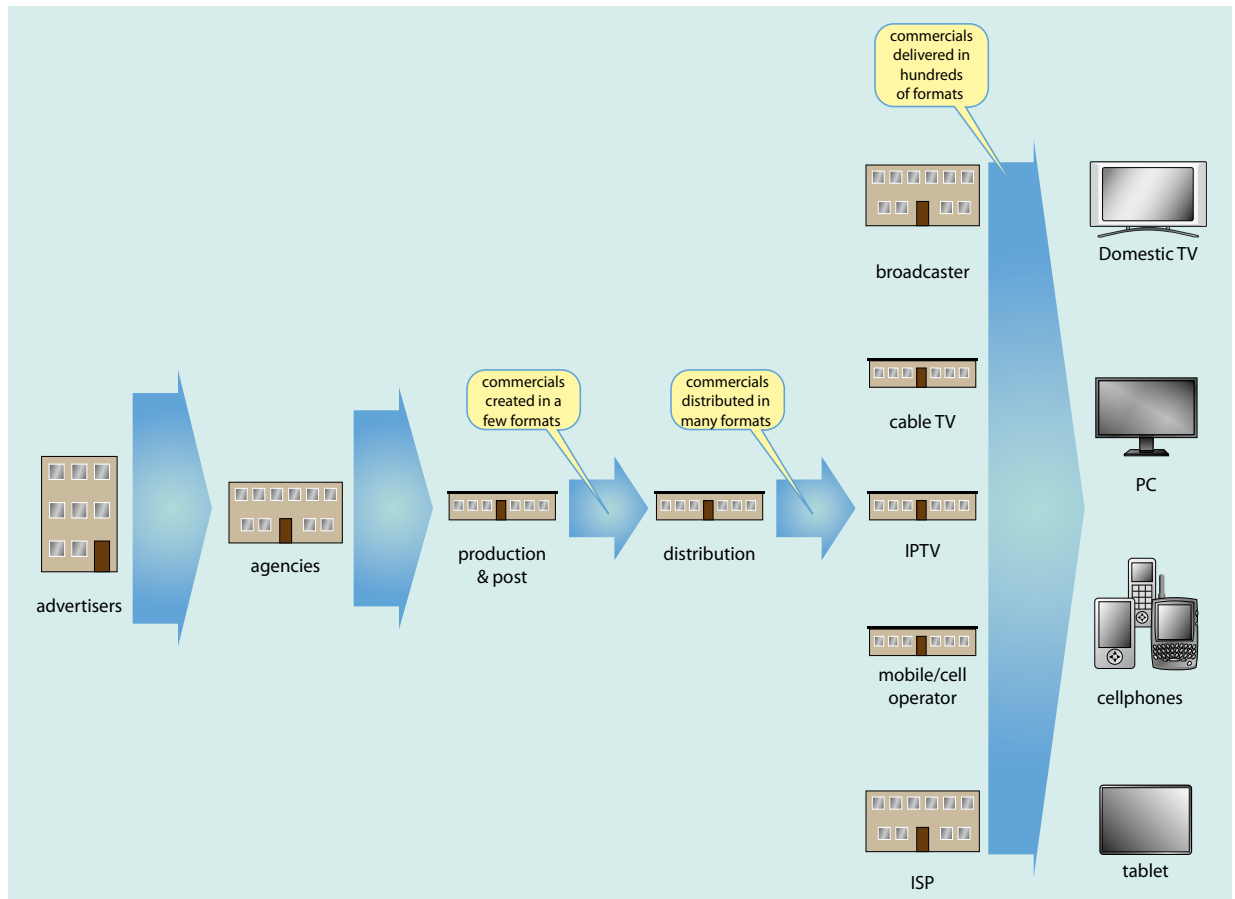

Figure 1. The life of a commercial involves many stakeholders, and it is ultimately delivered in many formats to the consumer devices.
U.S. advertisers work with around 14,000 agencies to create their campaigns. From the agencies and their post houses, the finished masters of the television commercials are then delivered to the handful of commercial distribution companies (figure 1, page2).